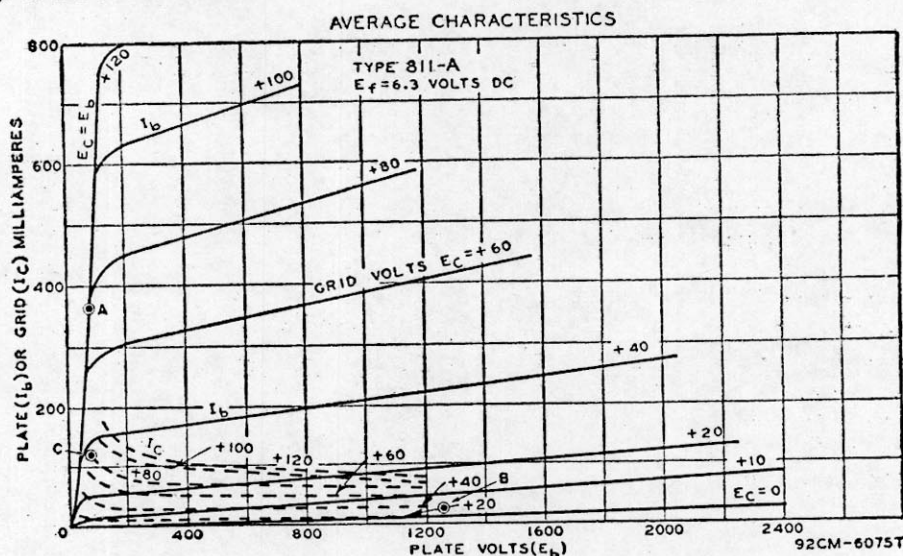

Fig. 48
Calculate operating values for the RCA-811A for linear rf power amplifier service under ICAS conditions. Refer to Fig. 48 for curve values.
- (1) Select  $E_b = 1250$  volts.
- (2) Calculate:  $I_{be} = 0.9 P_{ine}/E_b = 0.9 \times 165/1250 = 0.12$  ampere.
- (3) Calculate:  $I_{bmax} = 3 I_{be} = 3 \times 0.12 = 0.36$  ampere.
- (4) Calculate:  $I_b = I_{be}/1.4 = 0.12/1.4 = 0.09$  ampere.
- (5) On Fig. 48 locate  $I_{bmax} = 0.36$  ampere at Point A. Read  $E_{cmax} = 80$  volts;  $E_{bmin} = 80$  volts.
- (6) Calculate  $I_{b0} = I_{be}/5 = 0.12/5 = 0.024$  ampere.
- (7)  $P_{ine} = E_b I_{be} = 1250 \times 0.120 = 150$  watts.
- (8) Calculate:  $PEP = (I_{bmax}/4)(E_b - E_{bmin}) = (0.36/4)(1250 - 80) = 0.09(1170) = 105$  watts.
- (9)  $P_p = 0.7 P_{ine} - 0.5 PEP = (0.7) 150 - (0.5) 105 = 52.5$  watts.
- (10) Record:  $E_g = E_{cmax} = 80$  volts.
- (11) On Fig. 48 locate  $I_{cmax} = 0.12$  ampere at Point C.
- (12) Calculate:  $I_{ce} = I_{cmax}/3 = 0.12/3 = 0.04$  ampere.
- (13) Calculate:  $I_c = I_{ce}/1.4 = 0.04/1.4 = 0.028$  ampere.
- (14) Calculate:  $P_d = E_g(I_{cmax}/4) = 80(0.12/4) = 2.4$  watts.